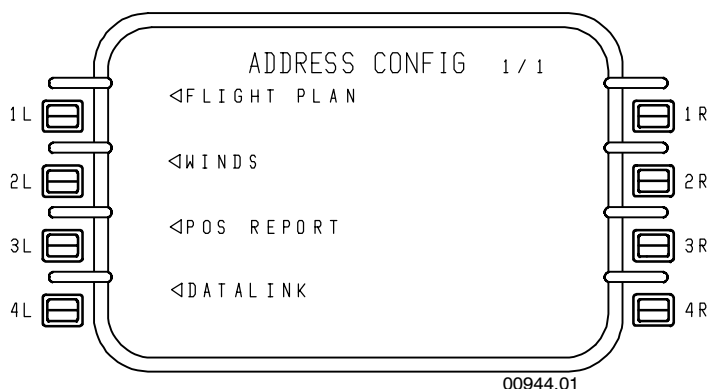

Figure 6-91
- **ADDRESS CONFIG 1/1** – Upon selection of the address prompt (1R) on the last DATALINK INDEX page, the ADDRESS CONFIG page is displayed. This is shown in Figure 6-91.